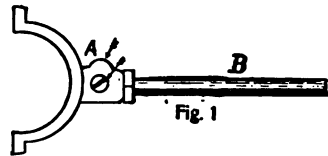

Fig. 1
Foot pressure on treadle G will force the drill through the metal, leaving both hands free to handle the drill and the articles being drilled. If the treadle is not desired, or it is preferred to have both lever and treadsles, the lower bar (C) may be extended as indicated by the dotted lines cc, Fig. 1, and hand lever force may be used. The two pairs of bars (C and CC) will give almost vertical travel of the drill.—Contributed by Chas. N. Leonard, 1319 Barth avenue, Indianapolis, Ind.
There are a number of methods of hanging shafting from structural shapes in use. Figs. 3 and 4 show hangers fastened to the lower flanges of I-beams. The method shown in Fig. 3 is common, but that shown in Fig. 4 is an improvement on it. In this a gray-iron clip (Fig. 5) with a square hole in the top of it to keep the nut from turning is used. For suspending hangers or motors from I-beams, or for eyebolts for chain blocks, the beam fastening shown in Fig. 1 is good, says a correspondent of the American Machinist.
An accident happened in our shop a short time ago while we were getting out a hurry-up job (a job that is done in a hurry without the proper amount of thought applied to it). We had a wrought-iron eccentric yoke, hardly large enough to fit the eccentric we wished to use it on (Fig. 1). It was taken to the blacksmith to be made larger, therefore the rod, B, was left screwed fast to handle it by when hot. It had not been in the fire long until, with a loud report, it burst, forcing two great swells and parting the wrought iron marked A-A in two places.